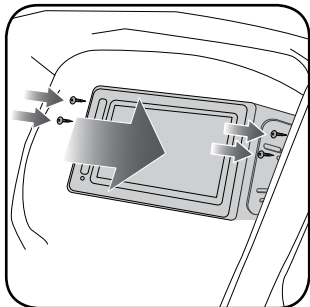

Fig. 3.1
6. Insert the radio into the dash and secure the metal brackets with (4) T25 screws. (Fig. 3.1)